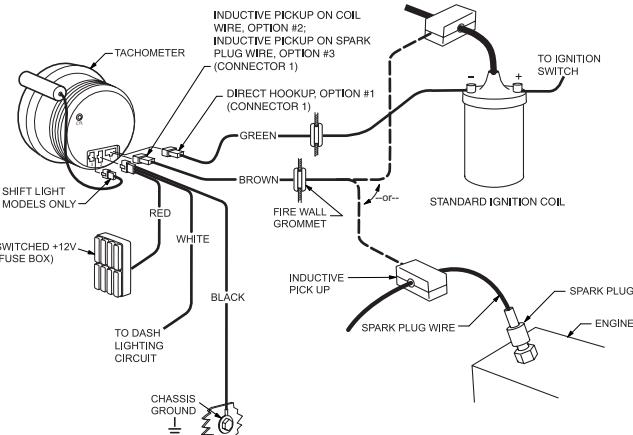

Figure 3
1. Connect the Inductive Pick-Up to the Ignition Coil Wire as follows (see Figure 3):
1. Connect the GREEN wire to the **negative side** of the ignition coil, or to a suitable tachometer **signal port** as follows (see Figure 3):
1. Connect the Inductive Pick-Up to a spark plug wire as follows (see Figure 3):